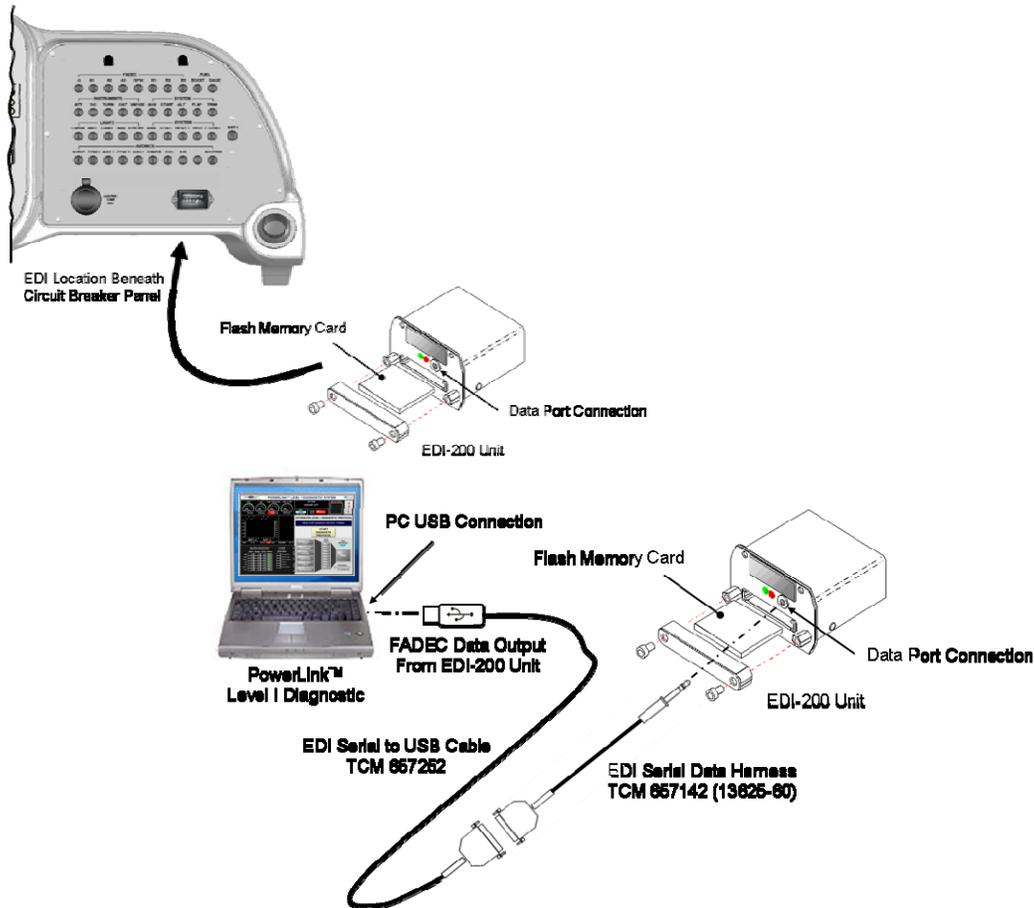

Figure 71-21 EDI Connections
2. Locate the Engine Data Interface (EDI-200) unit beneath the circuit breaker panel and connect data cables as shown in Figure 71-21 with the test computer.